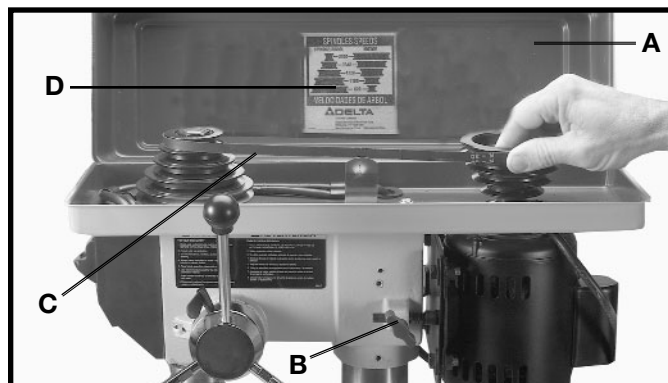

Fig. 29
2. Lift up the belt and pulley guard (A) Fig. 29.
3. Release belt tension by loosening tension lock knob (B) Fig. 29, and pivoting the motor toward the front of the drill press, as shown.
4. While holding the motor toward the front of the drill press head, position the belt (C) on the desired steps of the motor and spindle pulleys, as shown in Fig. 29. A belt positioning chart (D) is provided on the inside top cover of the drill press for your convenience.